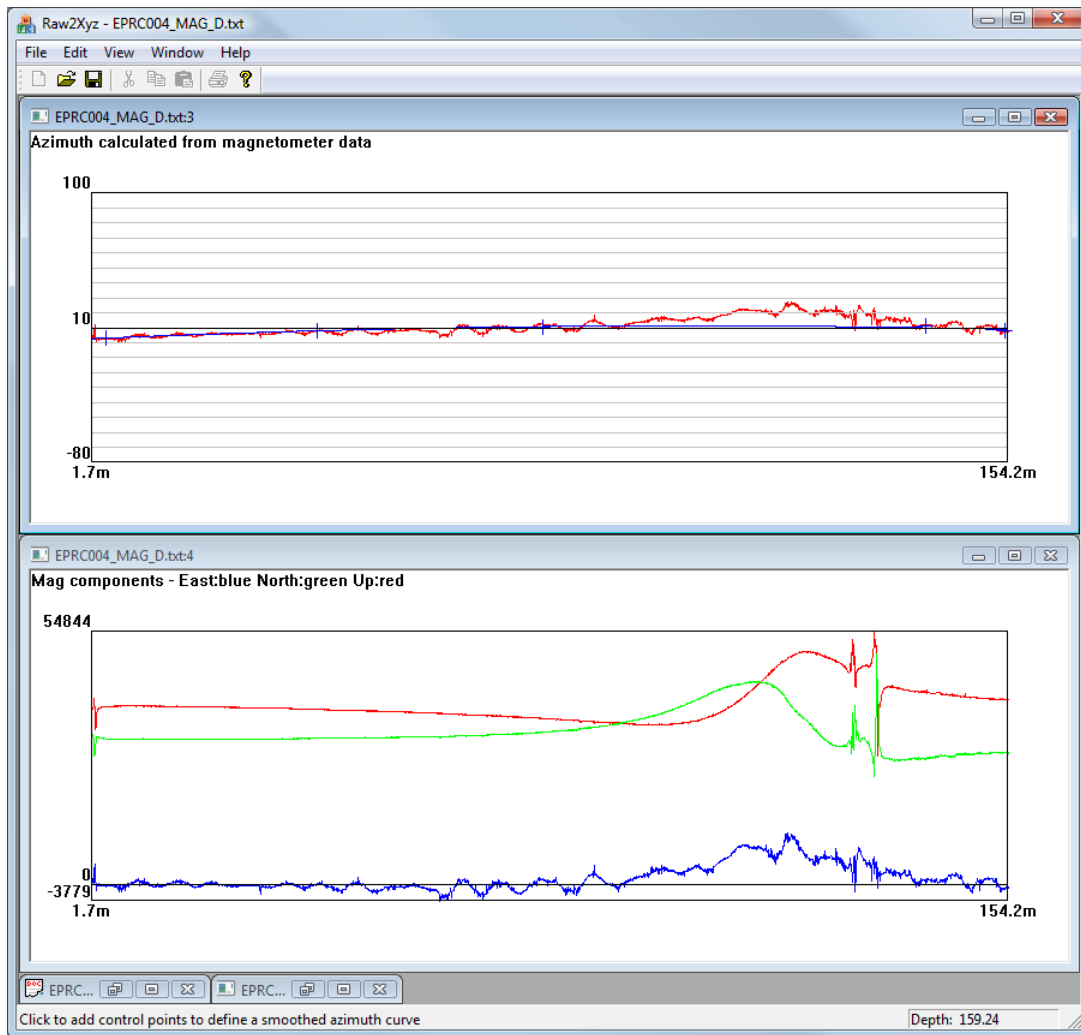

Figure 5 – Degree 2 polynomial fitted to control points
3. Fit a polynomial of appropriate degree to the control points, as in FIGURE 5. Raw2XYZ then uses the polynomial curve as the true azimuth. Notice that the East magnetic field component is no longer zero as it is not being used to calculate the azimuth – this is now done by the polynomial.